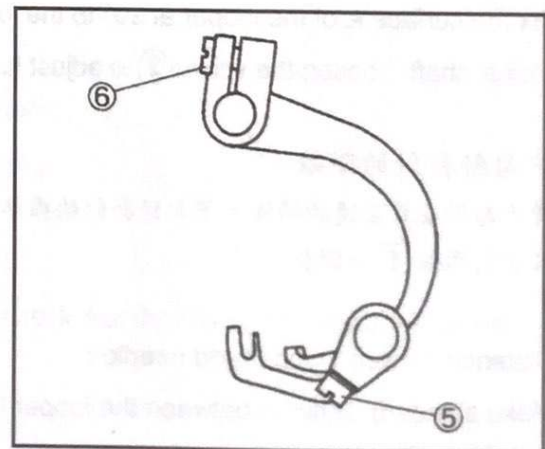

Fig.51
放鬆螺絲⑥去調整。(Fig.51)
Loosen the screw ⑥ to adjust them. (Fig.51)